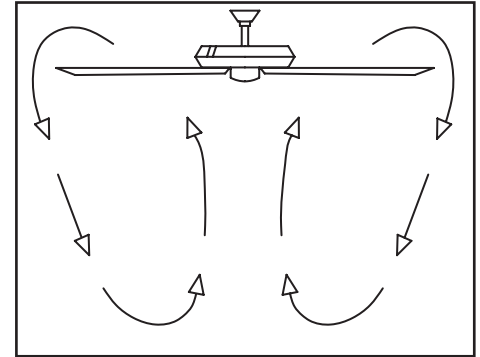

Figure 21
**Cool weather - (Reverse)** An upward air flow moves warm air off the ceiling as shown in Figure 21. This allows you to set your heating unit on a lower setting without affecting your comfort.